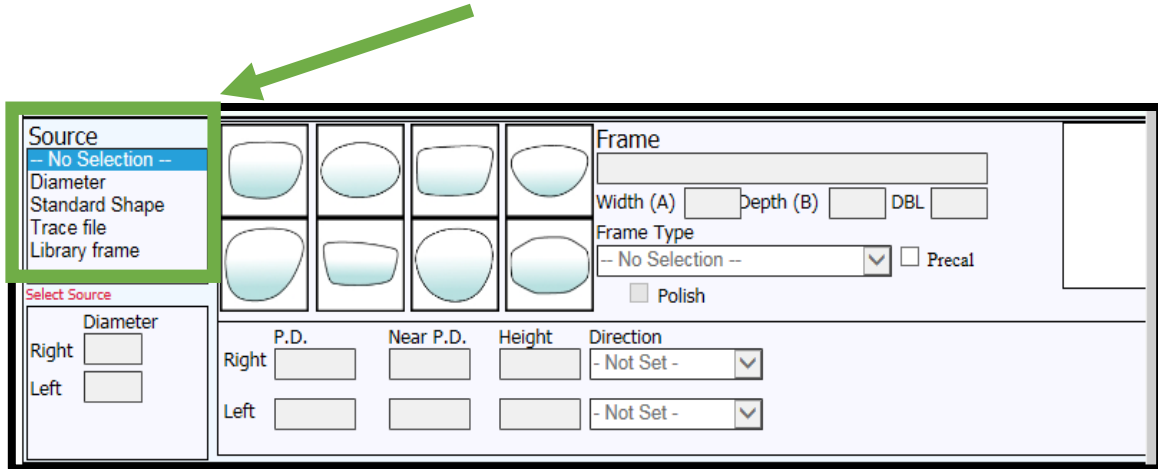

Fig. 5.0
6. Next select the shape or diameter source from the options listed (see fig 5.0)